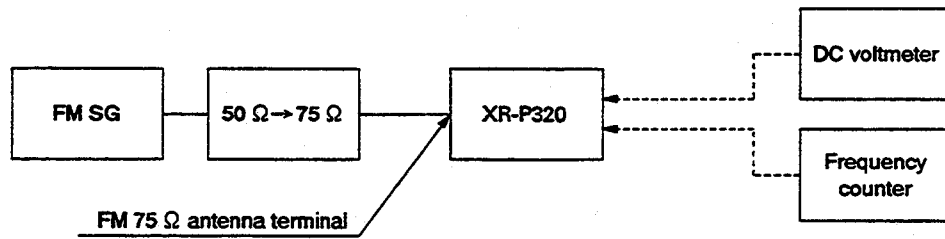

Fig. 6-1. FM Adjustment Connection Diagram
- Connect as shown in Fig. 6-1.